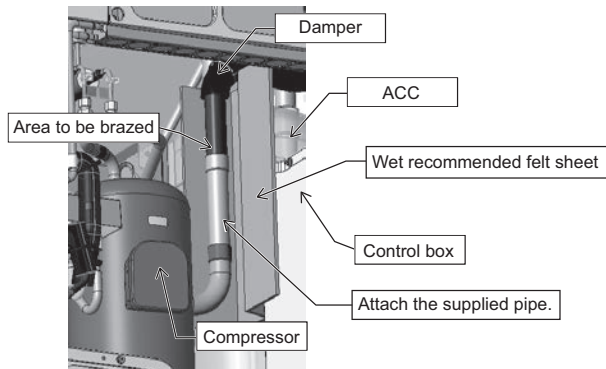

Figure 13
- (13) Tilting the compressor will cause the refrigerant oil to leak. Seal the pipe where it was cut or removed at the brazed section.
- (14) Braze the suction pipe using a wet recommended felt sheet. Use caution not to damage the control box, ACC, compressor cover, or dumper during brazing. (See Figure 13.)